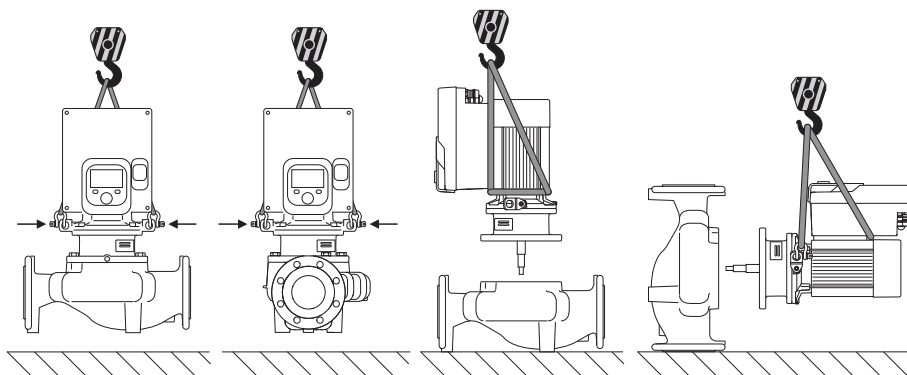

Fig. 6: Lifting direction
The pump must be transported using approved lifting accessory (hoist, block and tackle, etc.). The lifting accessory must be attached to the transport lugs at the motor flange. Slide the lifting loops under the adapter plate, if necessary (Fig. 6).
2. Attach the motor impeller unit (Fig. 4) to the transport lugs with suitable lifting equipment for protection. To prevent the unit from tipping, place a belt loop around the motor and adapter of the electronic module as shown in Fig. 6. When attaching, avoid damaging the electronic module.